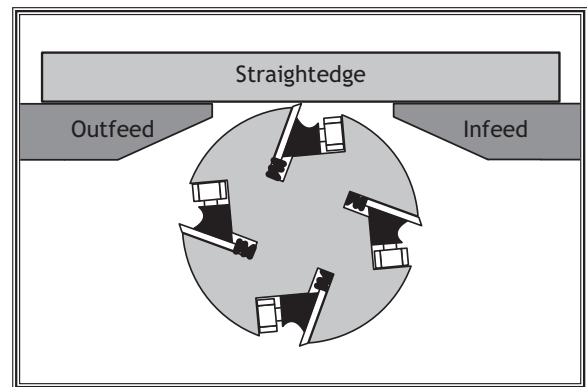

Figure 51. Infeed table even with outfeed table.
3. Use the straightedge to help adjust the infeed table exactly even with the outfeed table, as shown in **Figure 51**.